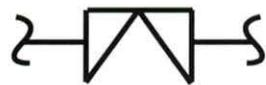

Figure 23. Valve Symbol
1. Determine the type of valve or actuator symbol depicted in figure 23.